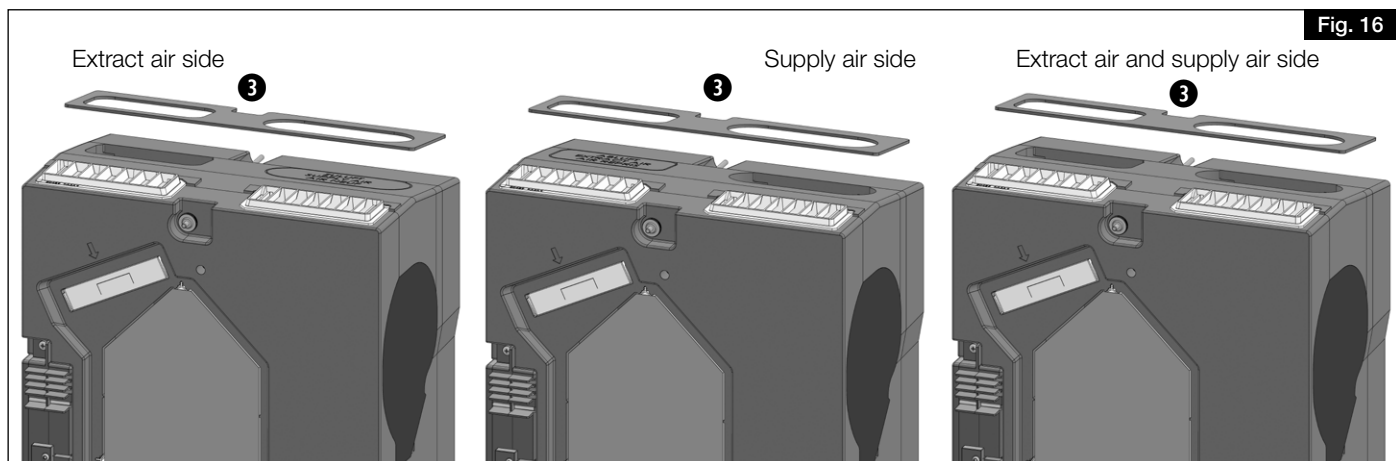

Fig. 16
2. Stick the seal ③ for the second-room connection onto the EPP housing (see Fig. 16).